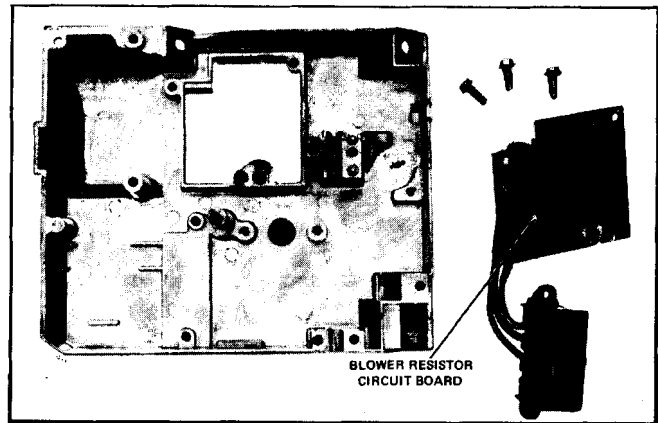

Fig. 1B-61 Blower Resistor Circuit Board
2. Remove (3) retaining screws and blower resistor circuit board. Take care that single ball bearing is kept located in bearing cup on circuit board.
3. Remove (3) electrical terminals from programmer electrical connector body.
4. To replace, reverse removal procedure. See Figs. 1B-60 and 1B-61.
6. Remove programmer retaining screws (Fig. 1B-46).